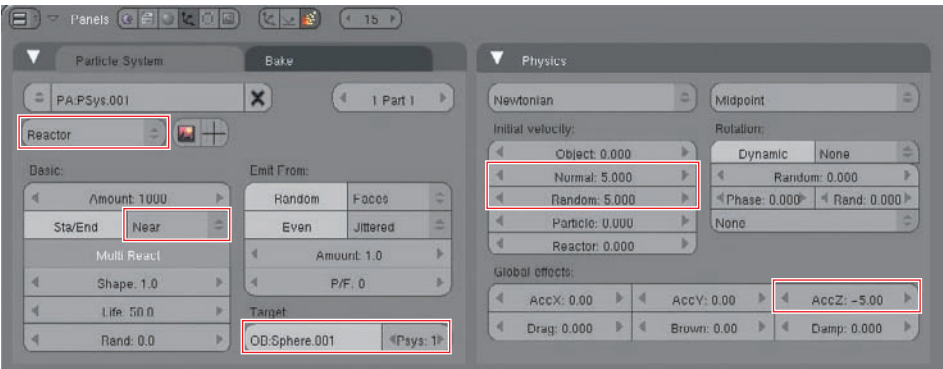
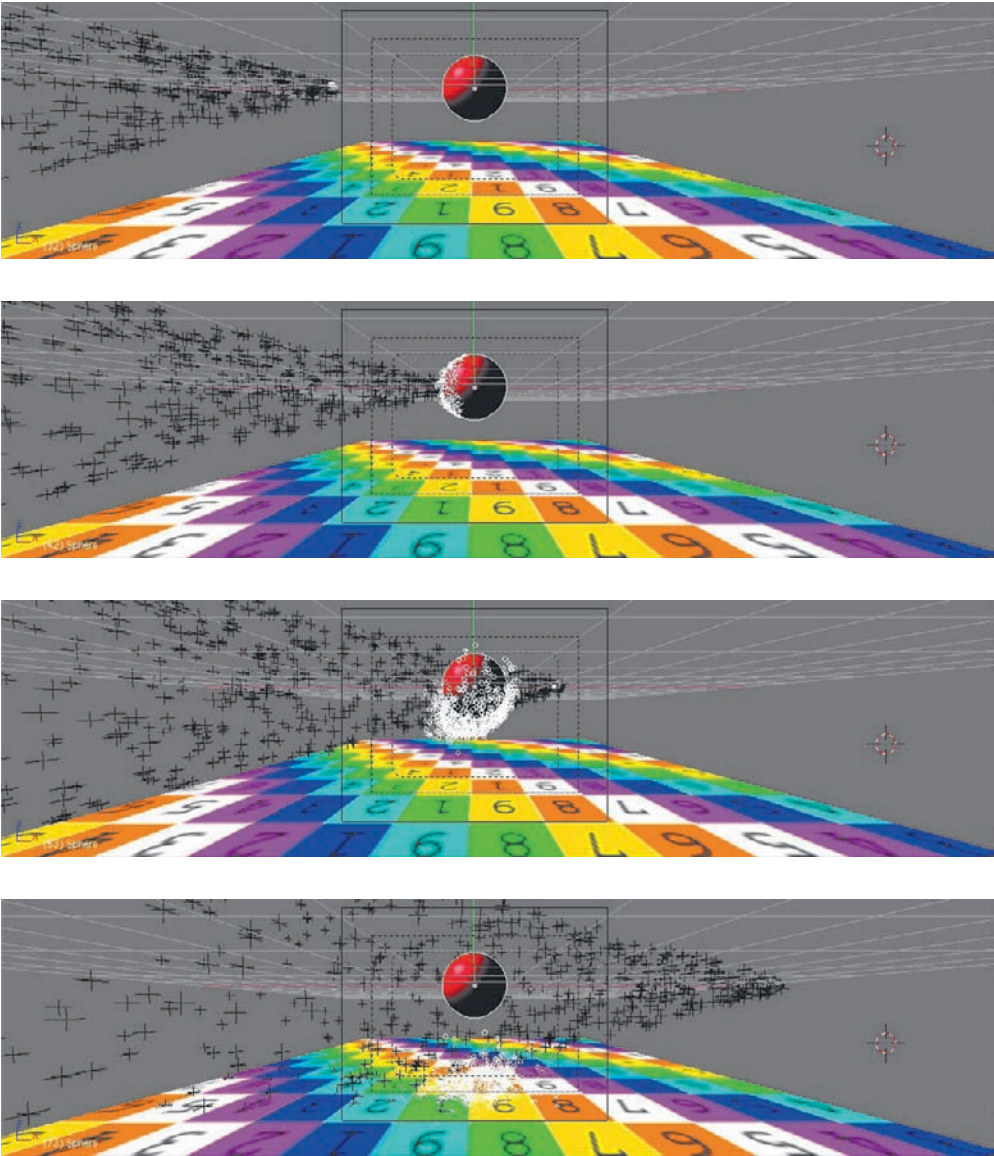

Figure 2.53 Reactor particles
Figure 2.54 Reactor particles reacting
3. Set up a Reactor particle system on the large ball with the values as shown in Figure 2.53. This particle system will be triggered by proximity to the small ball's particle system, so set that particle system as the Target. Select the Near value from the drop-down menu in the Basic panel, so that the Reactor particles will be triggered when the target particles come near. The Reactor particles will be the basis of the Explode modifier, and their motion will determine the way that the glass ball shatters. They should have a downward (-Z) acceleration, and they should also have more Normal and Random initial velocity. In the example, the Normal and Random velocity values are set at 5, and the acceleration value on the Z axis is -5 . If you run the animation now, you will see the Reactor particles emit from the large ball as shown in Figure 2.54. Notice how the Reactor particles (displayed as white circles) respond to the proximity of the Emitter particles (displayed as black crosses) by emitting from left to right across the large ball mesh. In the example, the textured plane beneath the balls is set to deflect particles, as you saw how to do previously in this chapter.